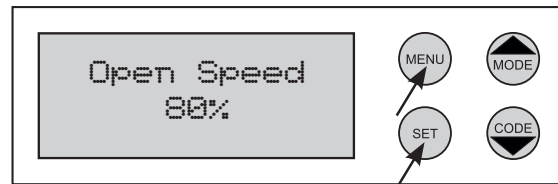

Fig. 35
- 1 Press **MENU** for 3 secs then press **SET** to cycle through to `Open Speed` or `Close Speed` as required (Fig. 35 & 36).